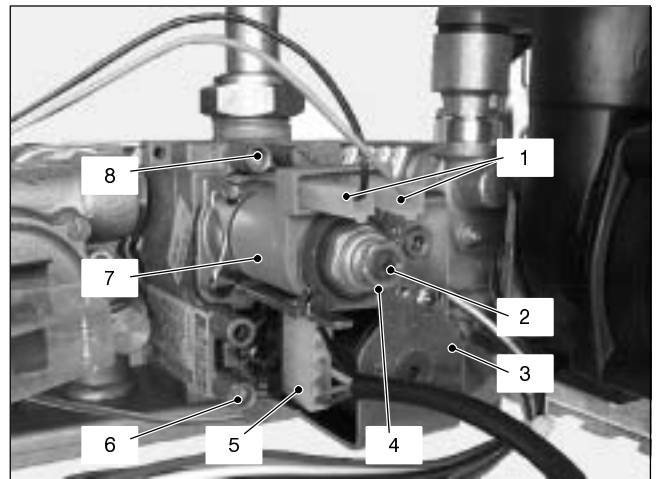

Fig. 45
11.2 Nomenclature of the parts (Fig. 45)
- 2 Open the gas valve inlet pressure test point (6 in Fig. 45) at the valve input, connect a suitable pressure gauge and check the gas pressure of the supply network.
- 4 Open the gas valve outlet pressure test point (8 in Fig. 45) and connect the gauge;
- 7 Rotate the maximum gas pressure adjustment (4 in Fig. 45) until you obtain the required pressure (by rotating clockwise the pressure increases).
- 8 Disconnect one of the two connectors (1 in Fig. 45) or, alternatively, remove the service panel as explained in the section 2.3 of this manual and set the dip-switch selector 1 (see section 9.5) to the OFF position.
- 9 Rotate the minimum gas pressure adjustment (2 in Fig. 45) until you obtain the required pressure (by rotating clockwise the pressure increases).